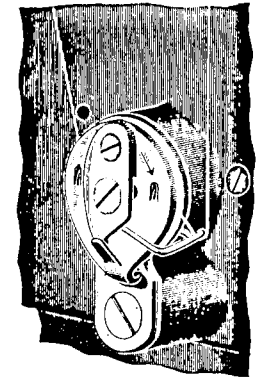

Fig. 13
To vary the tension of the thread controller spring, remove the face plate and loosen the small set screw, see **Fig. 13**, at the right of the controller, which sets the thread controller stud, then from the inside turn the stud forward or backward as required, and re-tighten the set screw. In any case when an unusually light tension is used, the tension on the spring should be correspondingly light. The coils of the spring should be oiled occasionally.
**To Place a New Thread Controller in Position.** Remove the entire thread controller by taking out the largest screw, see **Fig. 13**, and release the spring by removing the middle screw. **Be careful not to lose the small roller.** Place the new spring, roller and screw in their positions. Next put the entire thread controller on the face plate, taking care to slide the little tail, on the coil of the spring, into the notch in the stud over which the coil slides.